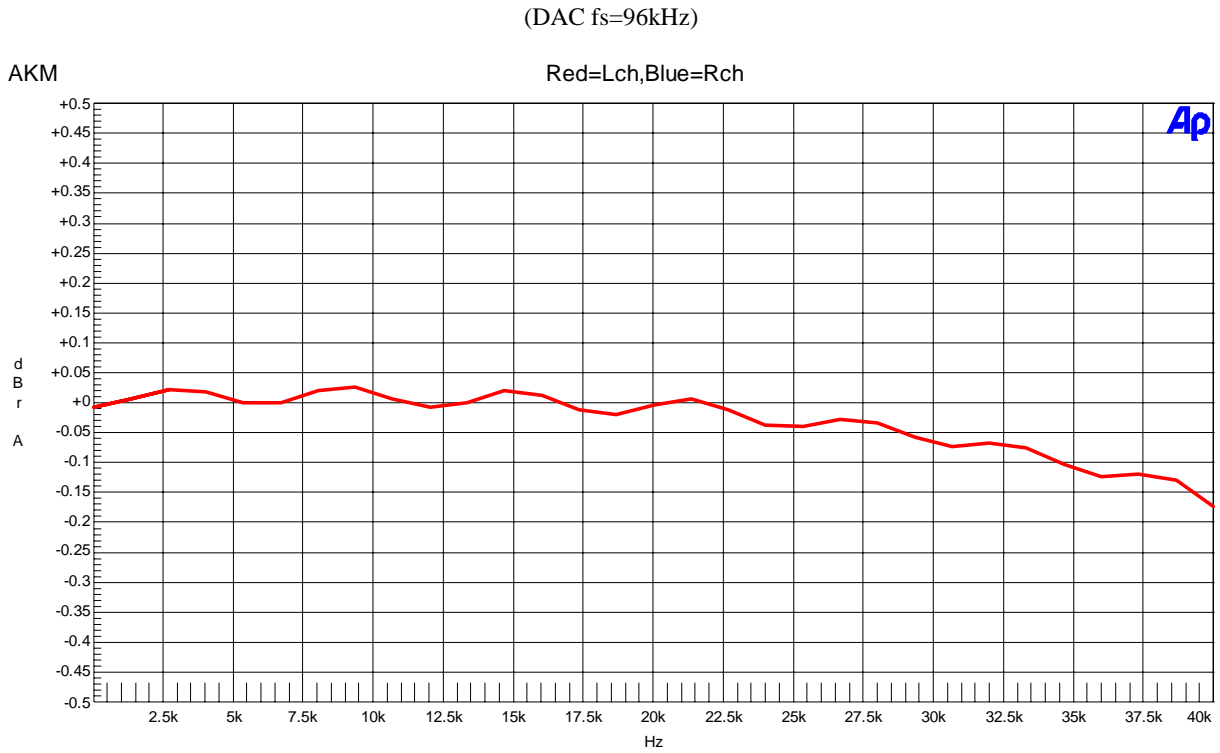

Figure 41. Frequency Response (Input Level=0dBFS)
- Figure 41. FFT (Input Frequency =1kHz, Input Level =0dBFS)